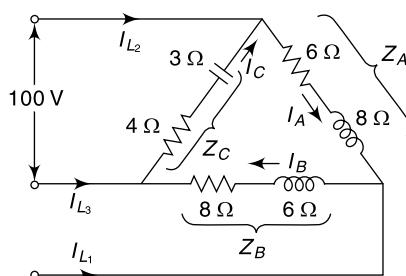

Fig. 4.28
- For the unbalanced delta connected load shown in Fig. 4.28 find the phase currents, line currents and the total power consumed by the load.